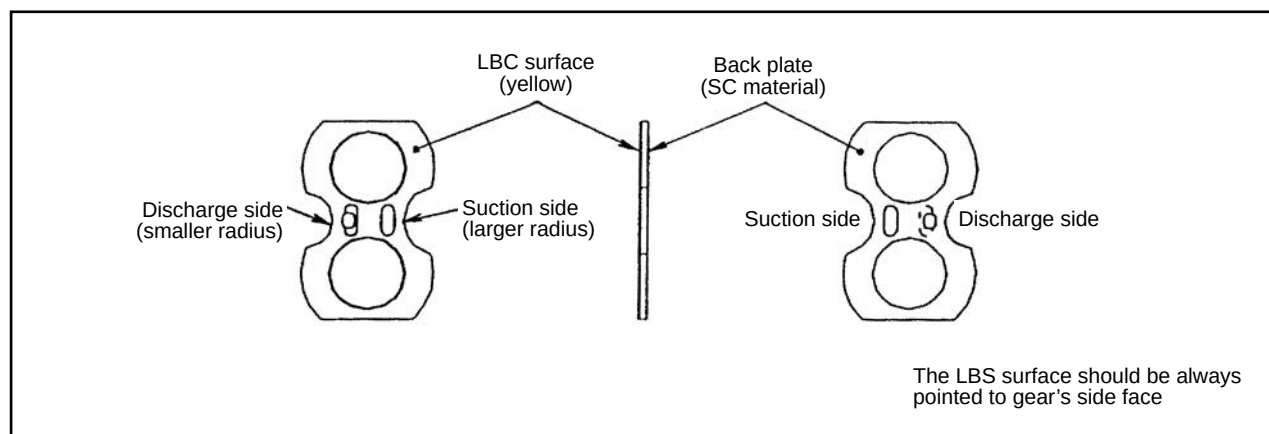

Fig. 7.36
- ⑤ Install the front side plate on the front cover, referring to Figure 7.36.
- ⑧ Install the rear side plate in the pump body, as shown in Figure 7.36.